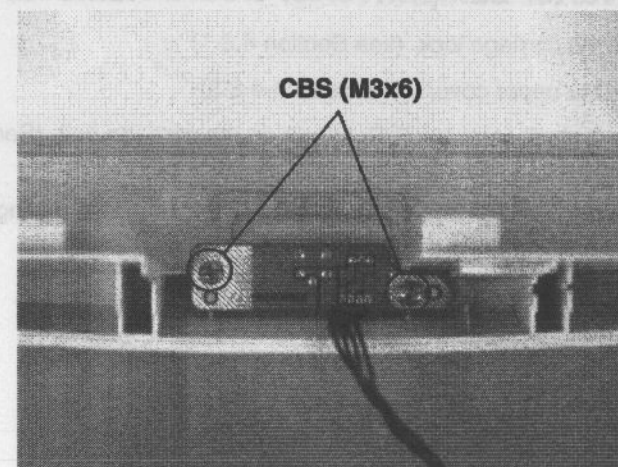

Figure 4-9. Panel Board Removal
3. Remove the two screws (CBP, M3x8), then remove the panel board. (See Figure 4-9.)